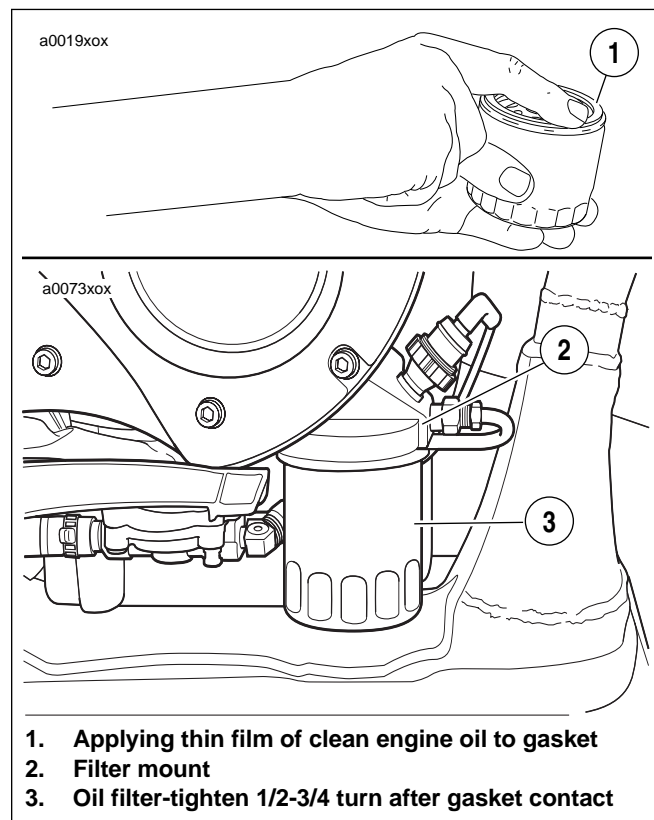

Figure 1-4. Installing New Oil Filter
7. See Figure 1-4. Remove the oil filter (located at the front of the engine).
9. See Figure 1-4. Apply a thin film of clean oil to gasket on new oil filter.